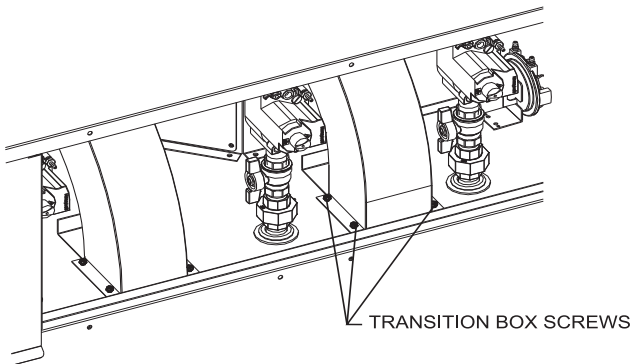

FIG. 57 Loosening Fan Transition Box Screws
2. Slightly loosen screws that attach fan transition box to metal base (see FIG. 57).